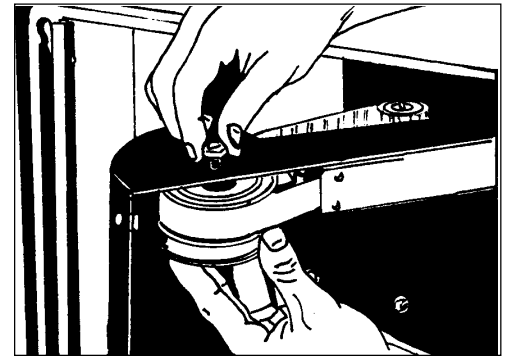

Figure 22
5. Install the bolt that holds the pulley. See figure 22.